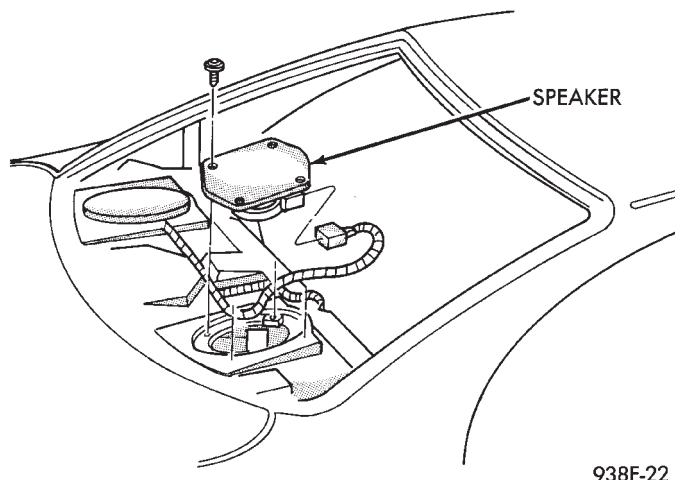

Fig. 14 Rear Speakers
(1) Remove parcel shelf panel, refer to Group 23, Body. Vehicles with grilles, pry up on grilles to remove.
(2) Remove four retaining screws (Fig. 14).